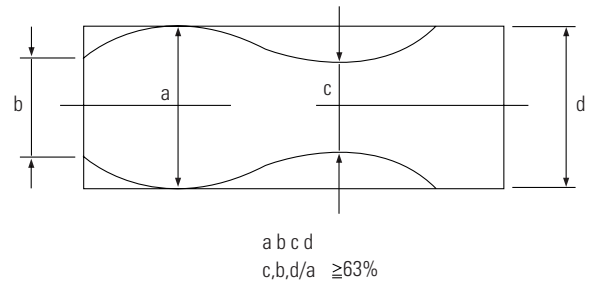

Fig. 2-6 Envelope Waveform Adjustment
- 3) Make sure the video envelope waveform (at its minimum) meets the specification shown in Fig. 2-6.